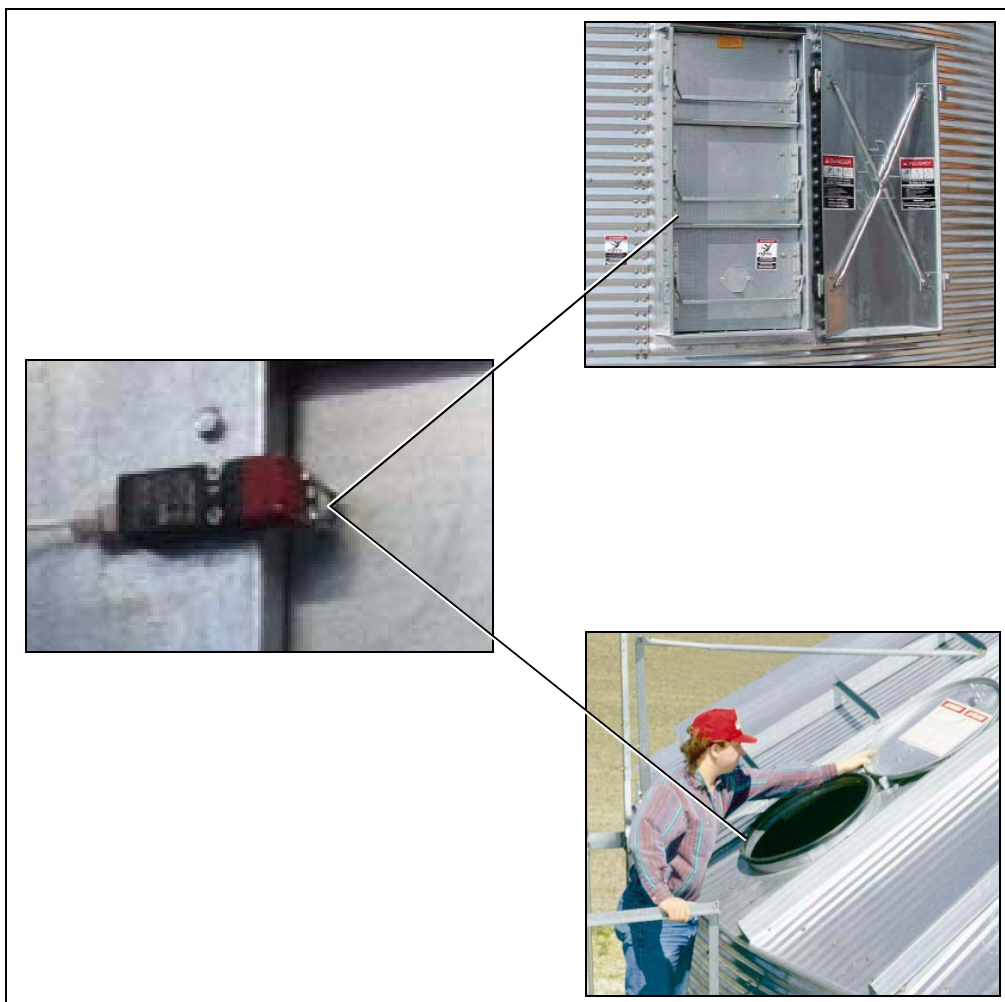

Figure 1B
- d. Safety circuits should be Category 3 in accordance with EN 954-1:1997 or PLc in accordance with ISO 13849-1:2006. (See Figure 1B on Page 14.)